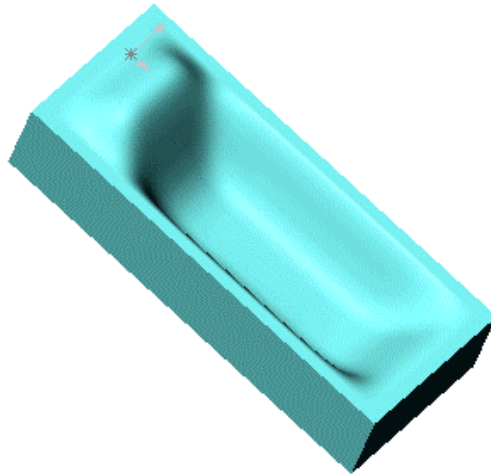

Fig. 4
- 4 **Rebuild** ( or **Edit>Rebuild**) the part (Fig. 4).